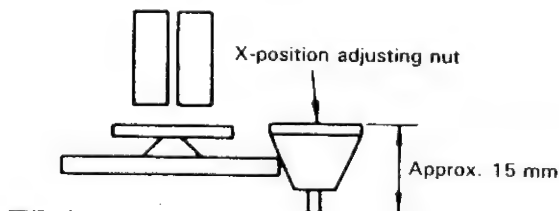

Figure 1-27.
- e. The X-position is adjusted after tape drive train adjustment. Push the (+) and (-) tracking buttons at the same time to set the tracking buttons to the preset mode, and rotate the X-position adjusting nut shown in Fig. 1-27 with the special bladed screwdriver for maximum switching pulse low side envelope, and then adjust the A/C head position. Now adjust the play back switching point to $6.5 \pm 0.5H$. Check the flatness of envelope and sound by selfrecording.